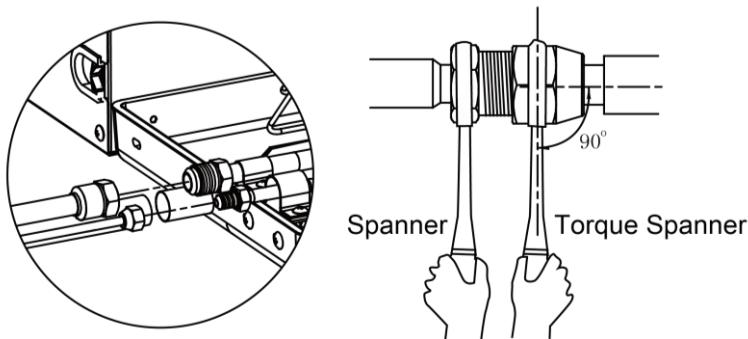

Fig.33
- (1) Conform to the following principles during piping connection: Connection pipeline should be as short as possible. The height difference between indoor and outdoor units should be as short as possible. Keep number of bends as little as possible. The radius of curvature should be as large as possible.
- (2) Weld the connection pipes between indoor and outdoor unit. Please strictly conform to the requirements for welding process. Rosin joints and pin holes are not allowable.
- (3) When laying the pipes, be careful not to deform them. The radius of bending parts should be more than 200mm (7-7/8in.). The pipes cannot be repeatedly bent or stretched, otherwise the material will get harden. Do not bend or stretch the pipe over three times at the same position.
(4) Please use a torque wrench to connect union nut on the indoor unit. See Fig.33.